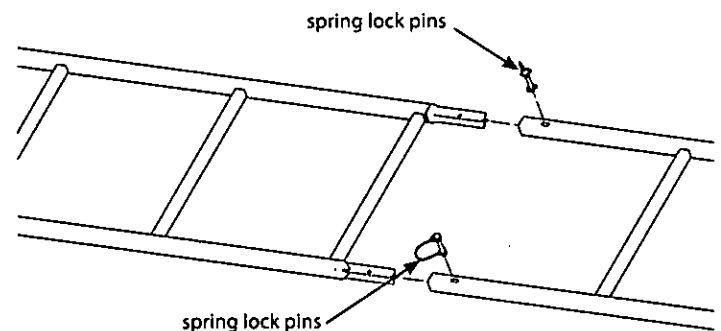

Figure 6
9. With all sections assembled together on ground, secure all sections together using (8) provided spring lock pins. Handle of spring lock pin must be put to the outside of ladder side rails. **SEE FIGURE 6.**